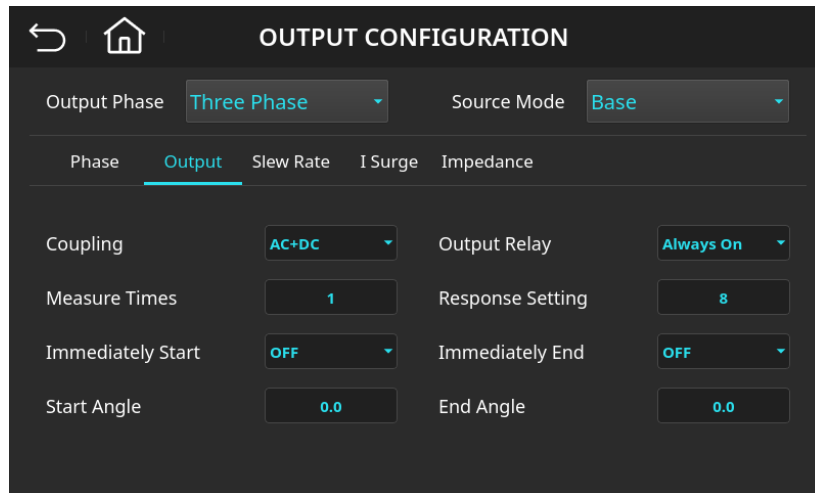

Figure 4-37: Output Configuration (Output) Page – Output Relay Set to "Always On"
3. Select "Always On" to complete the setting, as shown in Figure 4-37.